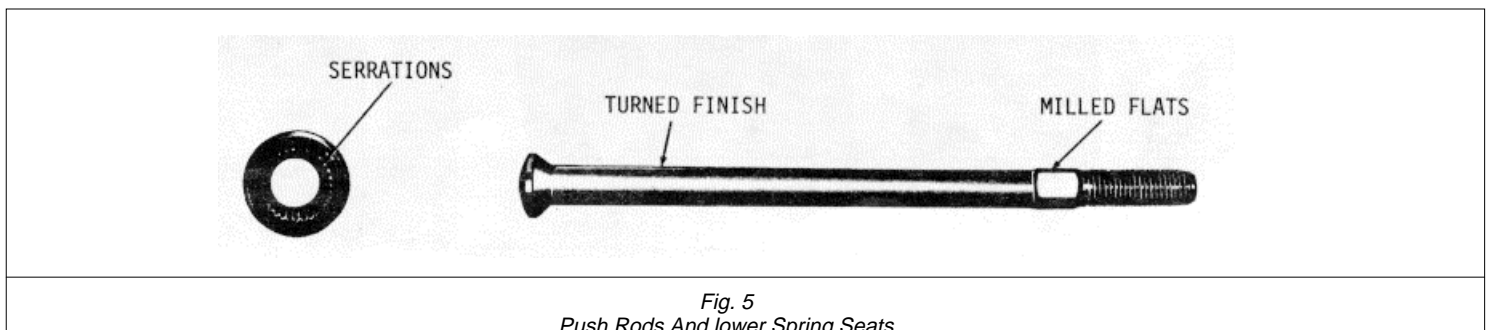
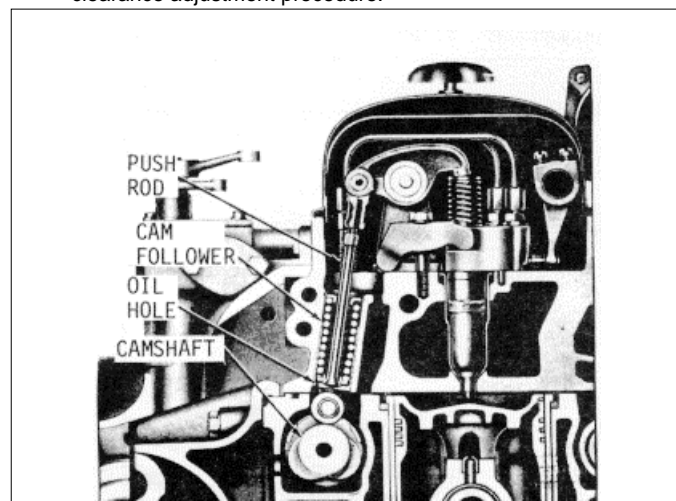

Fig. 5
Fig. 9
seats are serrated along the push rod contact surfaces (Fig. 5).
- (1) Note the oil hole in the bottom of the cam follower. With the oil hole directed away from the exhaust valves (Fig. 9), slide the cam follower in position in the cylinder head.
- (2) Assemble the serrated lower spring seat (Fig. 5) spring and upper spring seat on the push rod.
- (3) Place a flat washer over the upper spring seat and start the locknut on the push rod. Place tool J 3092-01 on the push rod between the washer and the upper spring seat and place the push rod assembly in the cam follower. Then thread the locknut on the push rod until the spring is compressed sufficiently to permit the spring retainer to be installed. Install the retainer with the tangs facing the notch in the cylinder head.
- (4) Remove the nut, flat washer and tool. Then reinstall the locknut and thread it as far as possible on the push rod.
- (1) Assemble the serrated lower spring seat (Fig. 5), spring, upper spring seat and lock-nut on the push rod.
- (2) With the spring retainer in place in the cylinder head, slide the push rod assembly in position from the bottom of the head.
- (3) Note the oil hole in the bottom of the cam follower. With the oil hole directed away from the exhaust valves (Fig. 9), slide the cam follower in position from the bottom of the head.